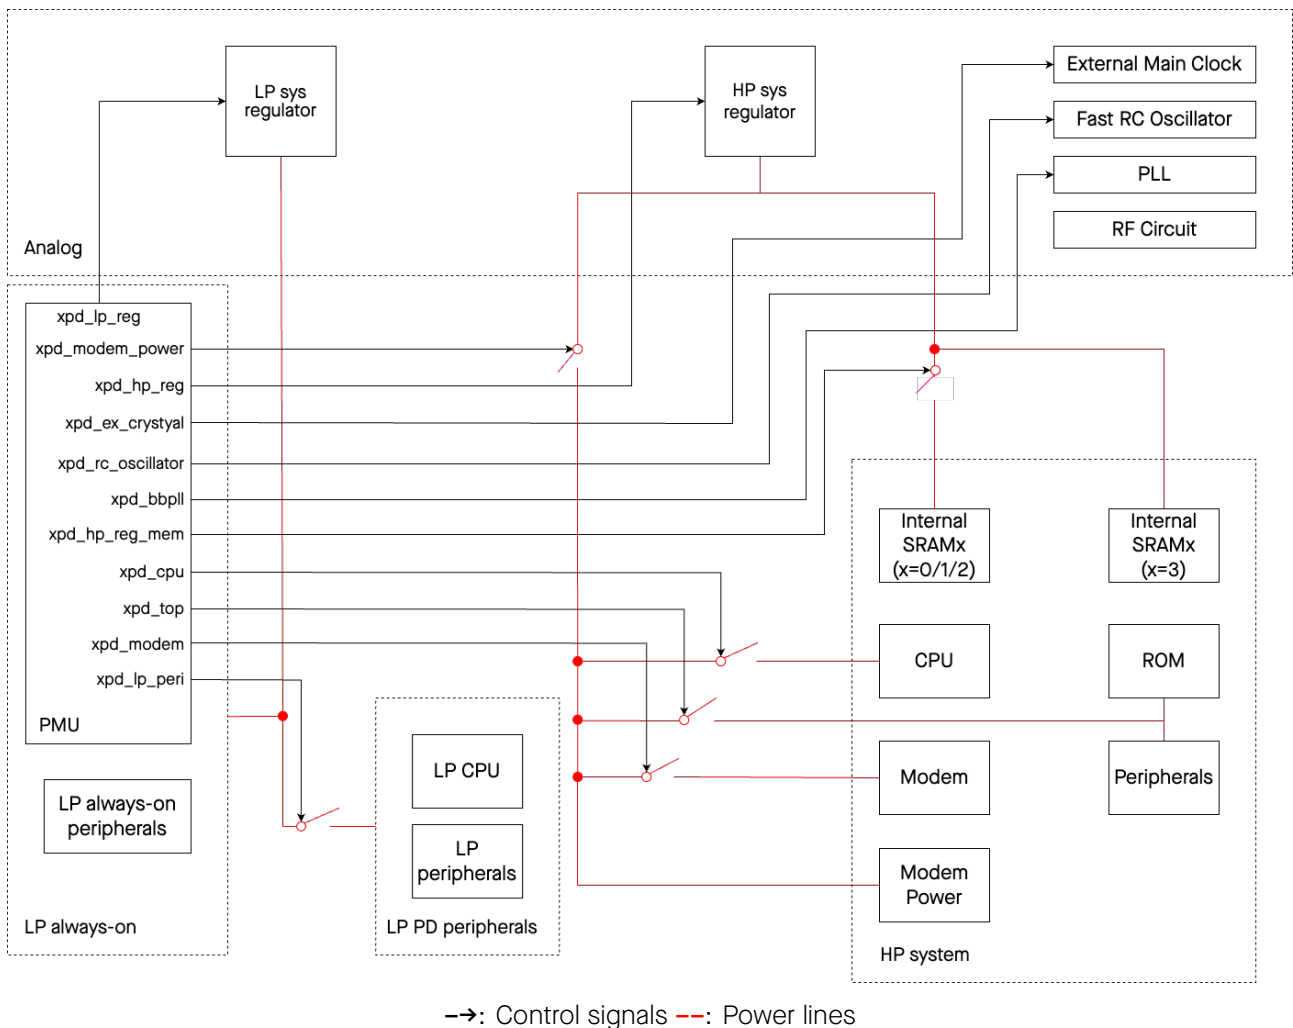

Figure 13.4-1. ESP32-C5 Power Scheme
As shown in Figure 13.4-1, the analog part of ESP32-C5 contains two regulators that regulate the power supply to different power domains. The two regulators are:
- **Internal SRAMx:** It is divided into four sub-power domains, as shown in Figure 13.4-1, where each of SRAM0/1/2 has an independent power switch, while SRAM3 is directly connected to the regulator without a power switch.